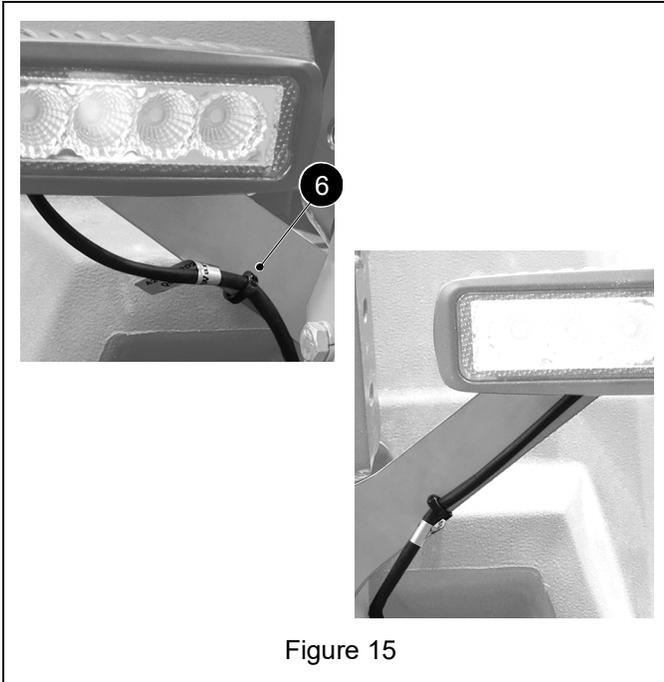

Figure 15
- Secure left and right headlight harnesses to holes in light mounting arms using two cable ties (item 6). See Figure 15.